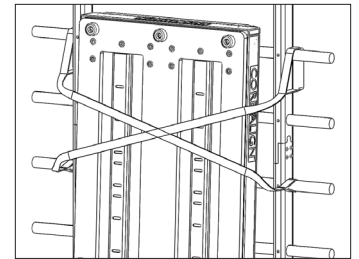

Fig. 9
**Note:** A mat may be used underneath to prevent any scratches to the floor. Diagonally wrap each rope around the unit and secure the handle on the top long dowel. Refer to Figure 9.